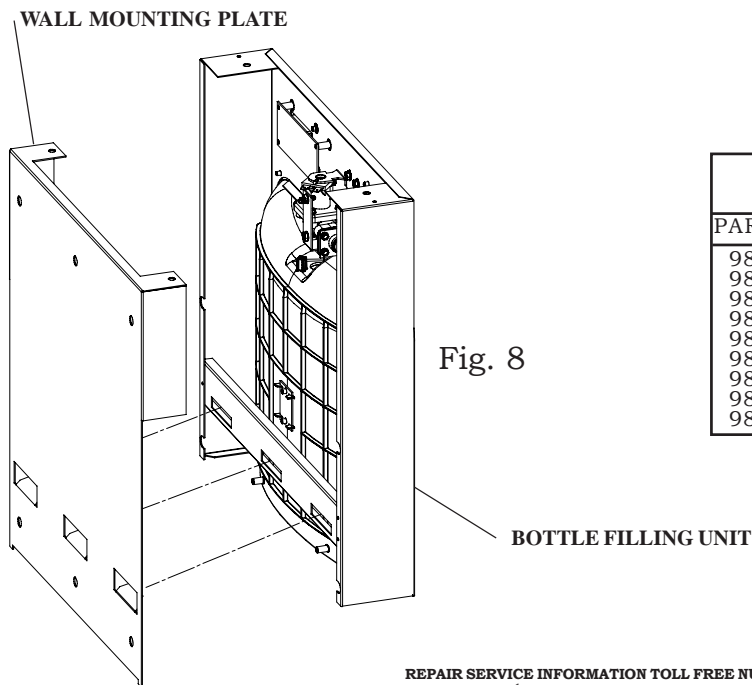

Fig. 8
- 1) Place Drain Cover on mat and install the four screws as shown in Fig. 8.